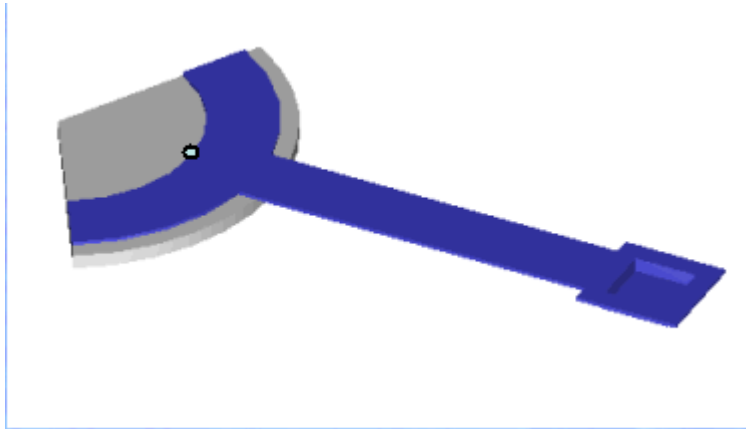

Figure 107: Master degree of freedom
- ☑ **Assign master degree of freedom** (Figure 107).